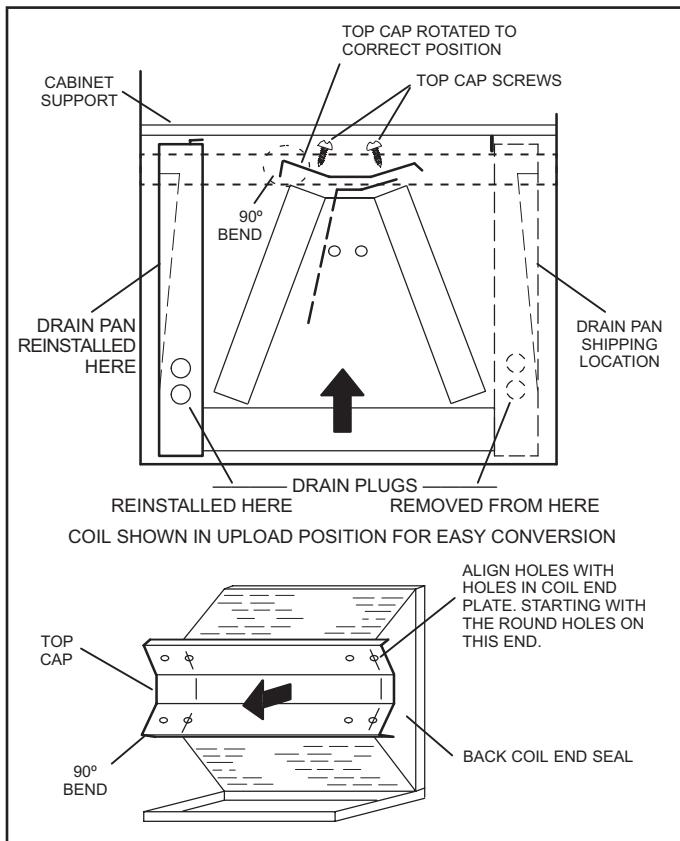

FIGURE 7. Field Modification for Left-Hand Discharge
- 7 - Rotate top cap 180° front-to-back and align with unused screw holes. Holes must align with front and back coil end plates. The top cap has a 45° bend on one side and a 90° bend on the other. **The 90° bend must be on the same side as the horizontal drain pan** as illustrated in figure 7.